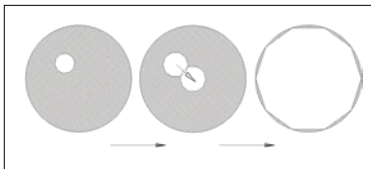

Fig. 18
- (3) Move the 20X objective into light path and focus the specimen.
- (4) Rotate the field diaphragm adjustment ring ③ to adjust the field diaphragm to the smallest position, the field diaphragm should be visible through the eyepieces .
- (5) Rotate the condenser adjustment knob to adjust the height of the condenser until the edges of the field diaphragm are in focus.
- (6) Adjust the condenser centering adjustment screws ④ to center the opening of the field diaphragm to the center of the field of view..
- (7) Open the field diaphragm gradually The image will not move away from the center if the condenser is centered properly. (See Fig. 18)
- (8) 6. The field diaphragm can be enlarged bigger than the field of view.